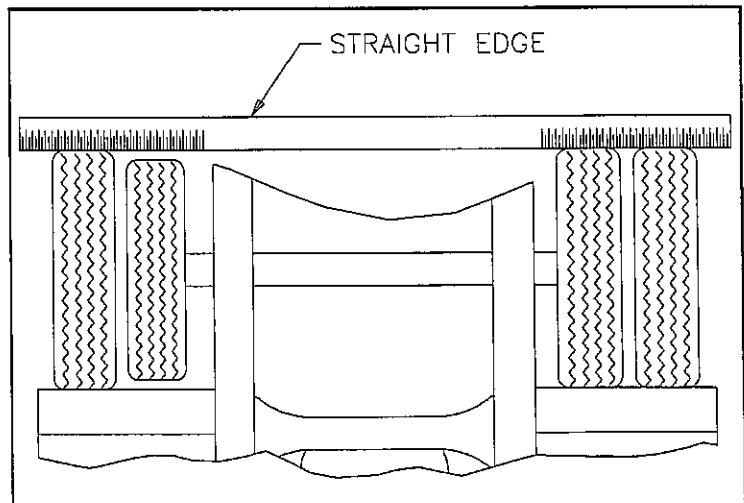

Fig. 4-18 Straight Edge Method
b. Straight Edge or String Method: (This method can not be used if tire and wheel assemblies are not mounted on the axle.) Jack semitrailer up until the wheels are off of the ground. Hold a straight edge against the tires of both ends of an axle. A gap at one tire indicates a smaller tire. A maximum of $1/8$ " gap is allowed (See **Figure 4-18**).